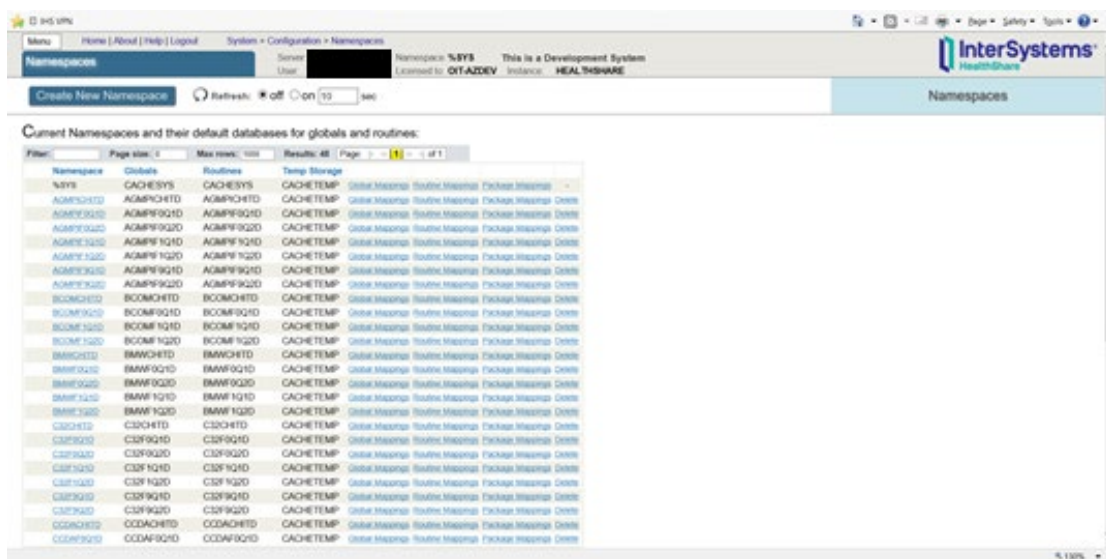

Figure 4-1: Select **Global Mappings**
1. On the **Namespaces** page, click **Global Mappings** in the AGMPIxxx namespace row to display the **Global Mappings** page, as shown in Figure 4-1.